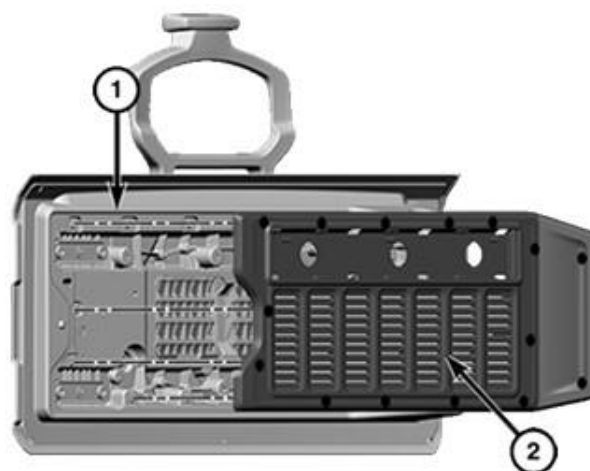

Figure 4 – Trim Panel
9. Remove the trim panel (2) from the swing gate inner panel (1) (Figure 4).
26. Install the trim panel (2) to the swing gate inner panel (1) (Figure 4).